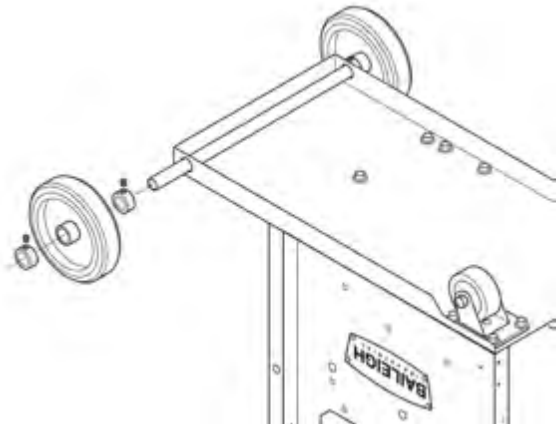

Figure 4-8
8. Loosen the set screw (item #8) in the four Limit Rings (item #7) (see Figure 4-8). Slide a Limit Ring over each end of the Axle (item #5), followed by a Wheel (item #6) and the remaining Limit Ring. Snug the Limit Rings and Wheels to the Base. **Fully-tighten the Limit Ring set screws to the Axle.**